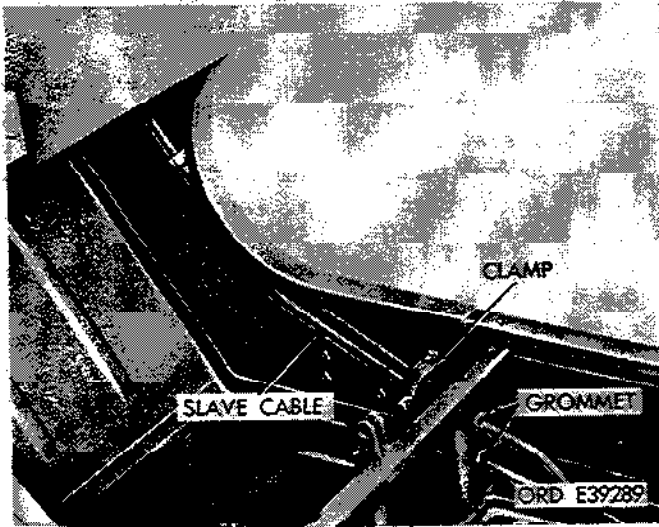

Figure 3-14. Slave cable installation body right side panel.
a. *Removal.* Refer to figures 3-14, 3-15 and 3-16.
(1) Remove right front seat and battery compartment cover. Remove battery winterization cover. Disconnect and remove outer battery.
(2) Remove nut from left battery positive terminal and disconnect slave cable.
(3) Remove retaining screw, washer, nut and cable clamps from body right side panel.
(4) Remove cable retaining clips from right cowl channel.
(5) Remove four receptacle-to-cowl retaining screws, lockwashers, flat washers, and nuts. Ground cable is attached by lower left screw.
(6) Remove receptacle assembly from cowl.